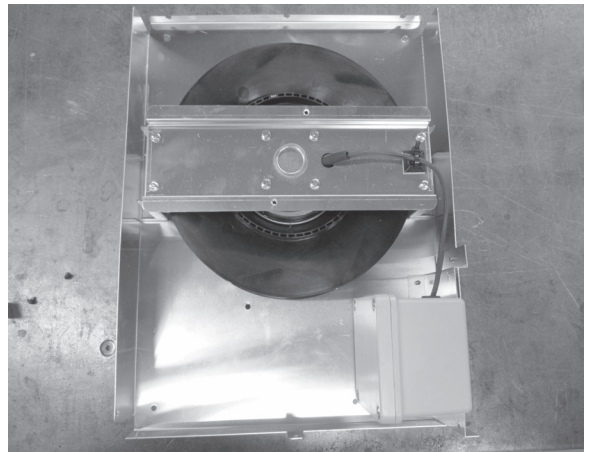

Figure 2.15
16. Install the heat-out into the wall and attach the cap to the wall using the four self-piercing #10 x 1/2 inch screws provided. See Figure 2.15.